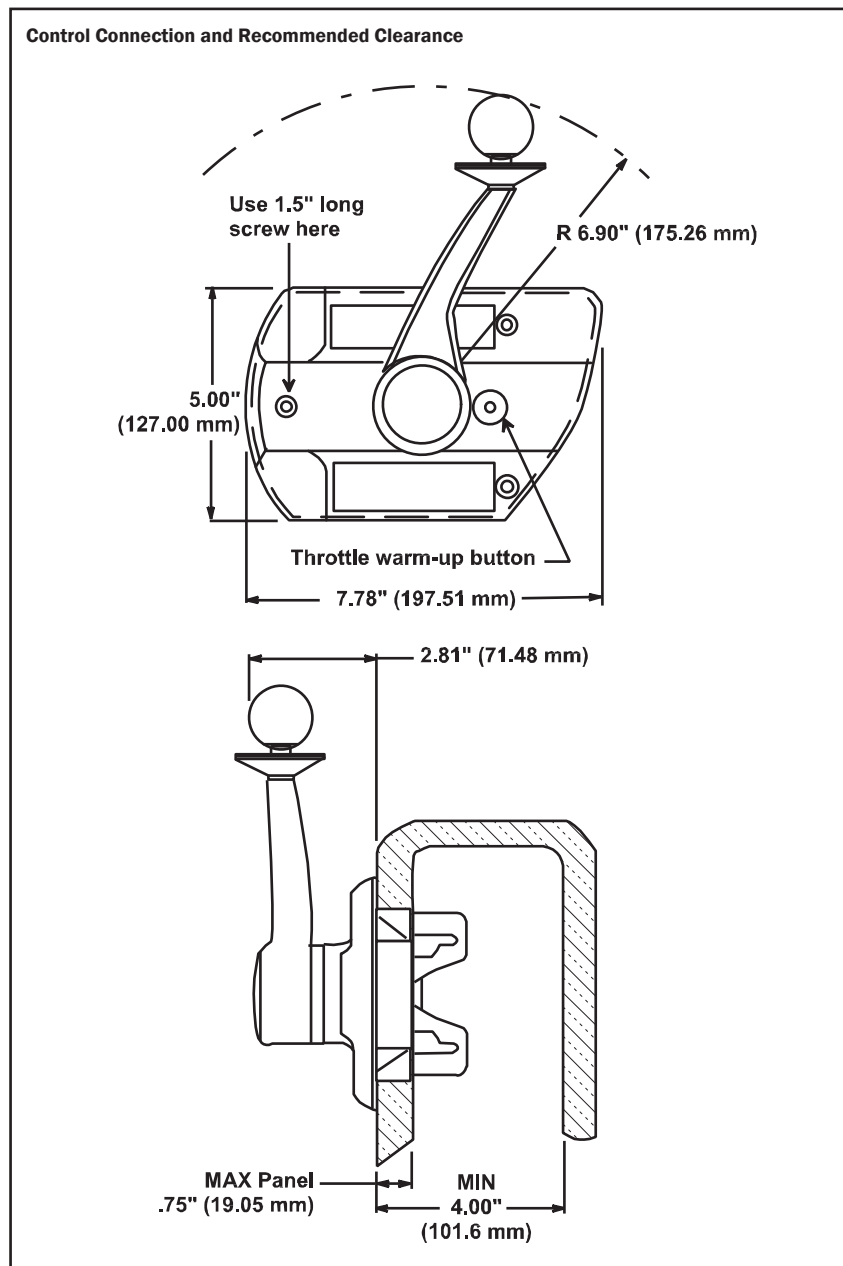

Figure 6.
Figure 6 shows the control dimensions and the recommended clearance behind the mounting surface.
When satisfied with the position of the control, fasten housing to mounting surface with three (3) #10 thread cutting screws. One screw is 1.50 inches (38.1mm) long and it is used in the single hole (see Figure 6).